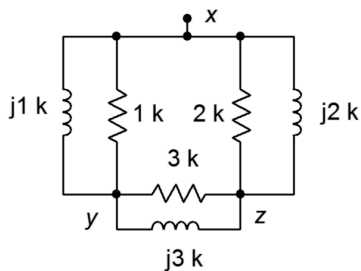

Figure 5.28
54. Determine the equivalent Y (T) network for the circuit of Figure 5.28.